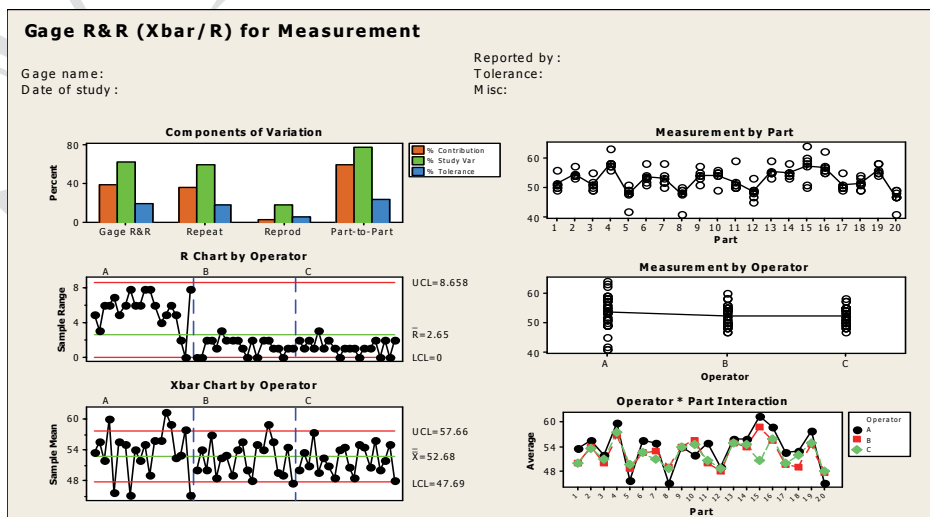

Figure 7.15: Plots using Gage R&R (Crossed): XBar and R Method of Data in
The results shown in Table 7.14 are displayed on the session window. The plots are shown in Figure 7.15.
**INTERPRETATION OF PLOTS IN FIGURE 7.15**